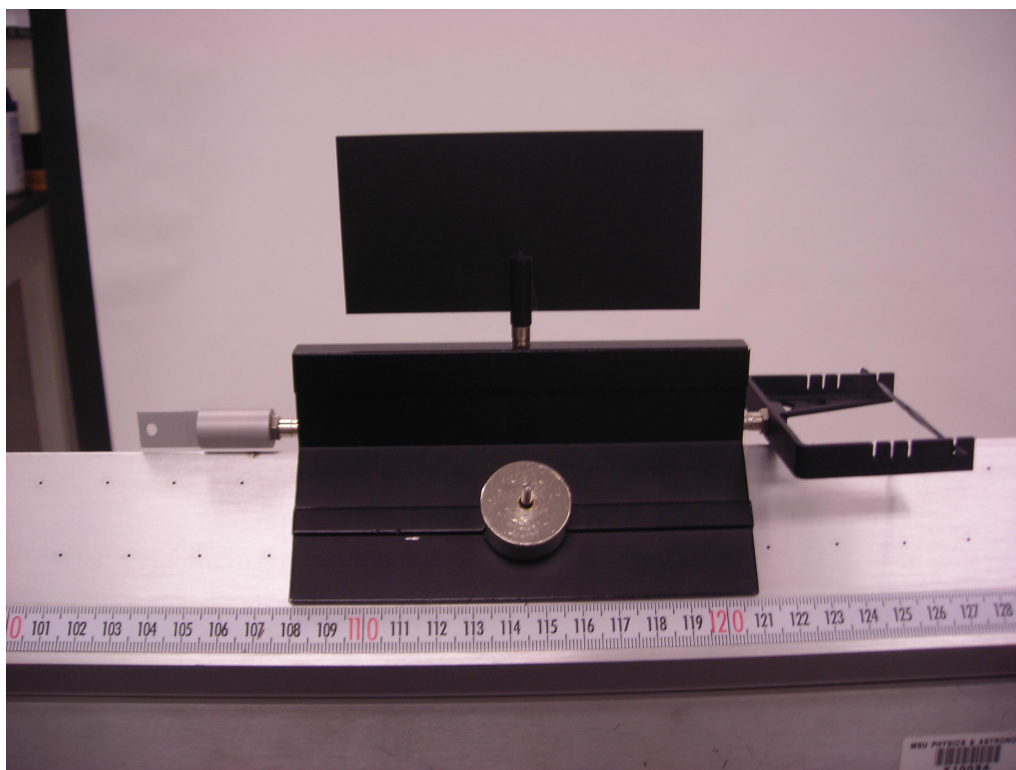

Figure 6.1: Cart with bumper.
- Two carts (one with bumper and one with blade, see Fig. 6.1)